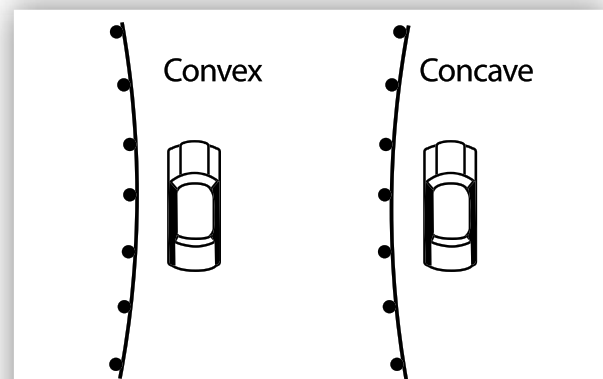

Figure 9: Curvature Orientation
2. Measure the corresponding chord length (C) - refer to Figure 9.
3. Measure the corresponding centre offset (H) - refer to Figure 9.